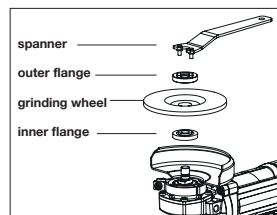
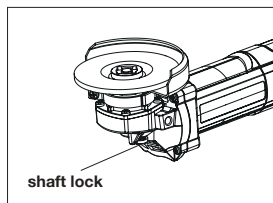

Fig3
Fig4
- Mount the inner flange onto the spindle, Fit the wheel/disc on the inner flange and screw the outer flange onto the spindle (Fig 3).
- To tighten the outer flange, Press the shaft lock firmly so that the spindle cannot revolve, then use the spanner (shown in Fig3) and securely tighten clockwise. (Fig4)